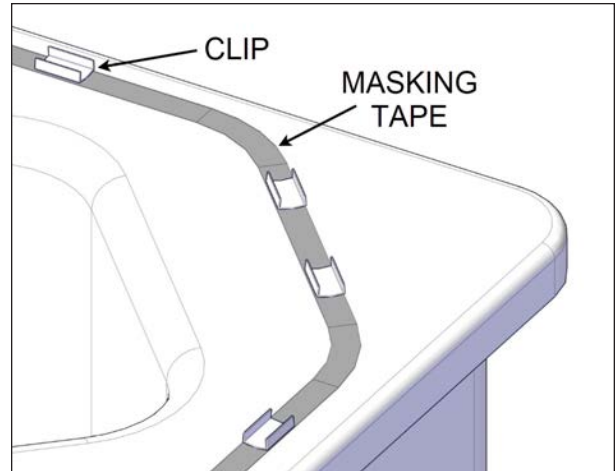
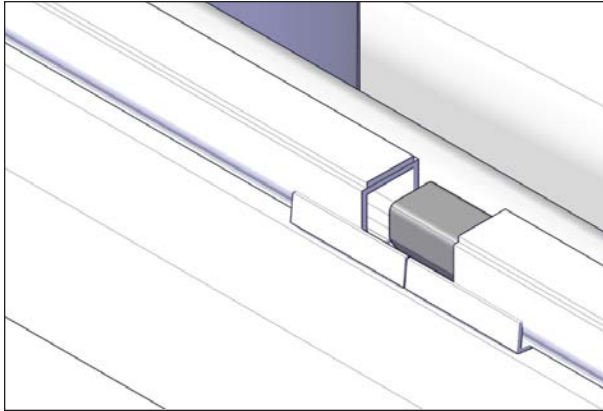
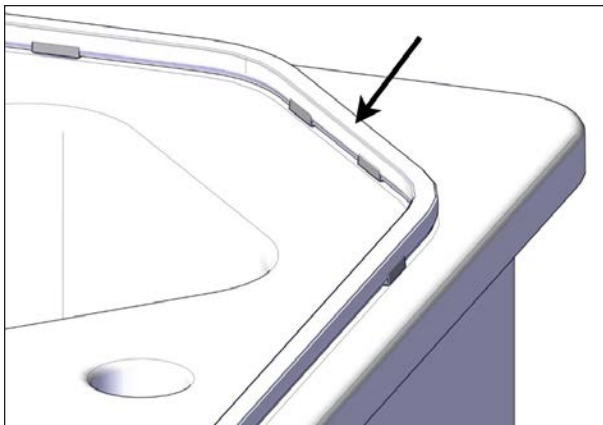

FIGURE 103: MASKING TAPE AND CLIPS
FIGURE 104: SEAL JOINT CONNECTOR
FIGURE 105: SEAL INSTALLATION
4. The number of seal clips is limited. Temporarily install the clips all around the spa to ensure the best distribution (do not stick yet). The minimum turn radius for the seal is 4" (10 cm), see Figure 103. Keep two clips for the seal joint connector as shown in Figure 104. Once the distribution is done, stick the clips in place (on the tape if applied).
5. The seal joint starts on the opposite side from the spa entrance. Install two clips where the seal joint connector will be located, see Figure 104.
6. Start installing the seal joint with the adhesive layer facing up towards the cover, see Figure 104 and Figure 105.
8. Insert the supplied seal connector in both ends of the seal. The use of masking tape to hold the two ends is recommended, see Figure 104.